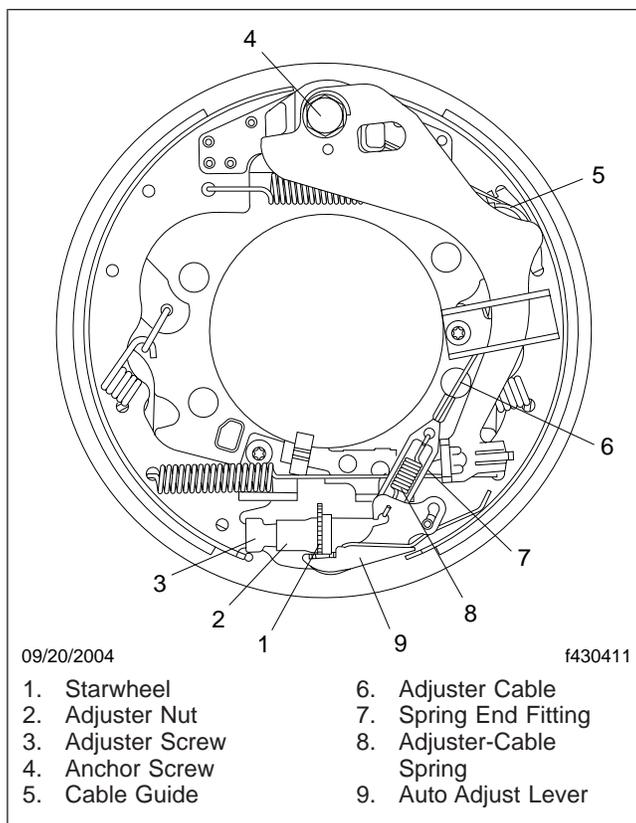

Fig. 4, Shoe Cage Adjusting Components
the brake. The adjuster lever seats against the starwheel on the adjuster nut and rotates the starwheel when adjustment is necessary. See Fig. 4.
2. Apply a light film of Wolfrakote paste ledge grease, or an equivalent, to the six backing plate shoe ledges and the anchor post. See Fig. 4.